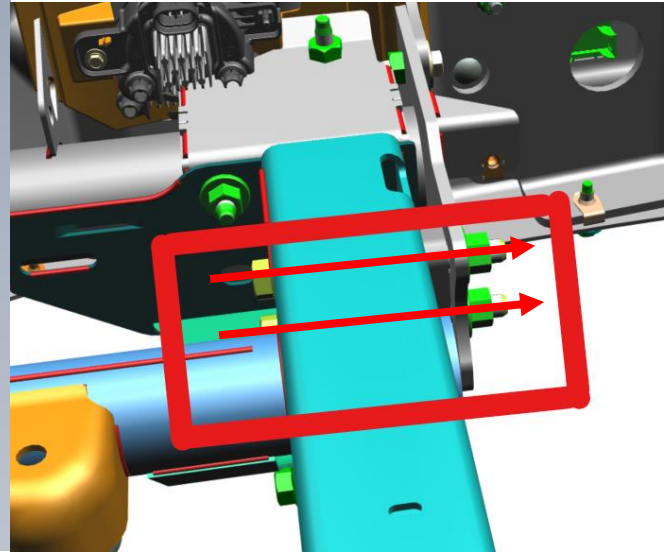

Figure 6 - Driver side inside frame
- d. Loosely install [2] M12 bolts and nuts (M18 socket) per side – Fig. 6